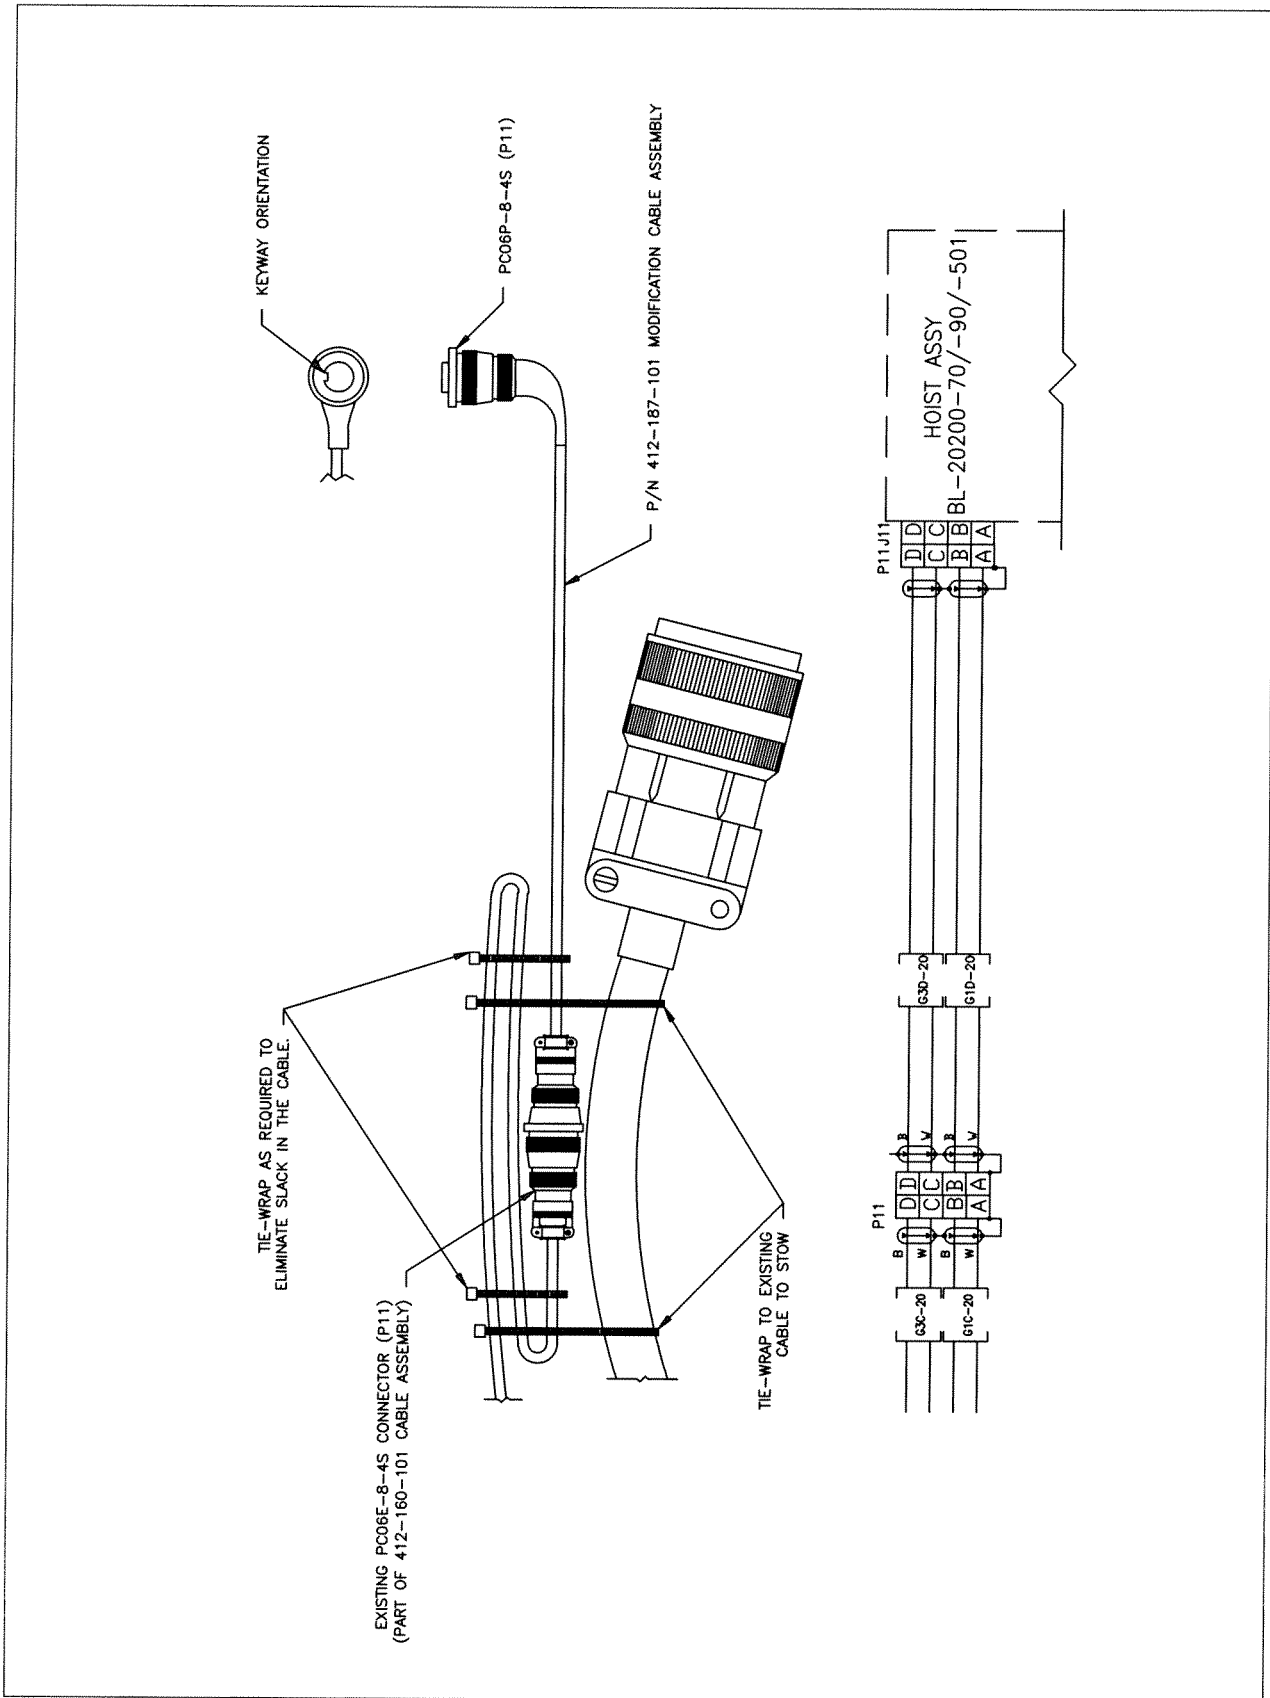

Figure 2
2. Install the AAI Modification Cable (412-187-101) onto connector as shown in Figure 2.
3. Tie-wrap the Modification Cable to the existing cable in order to take the slack out of the cable (Ref. Figure 2).